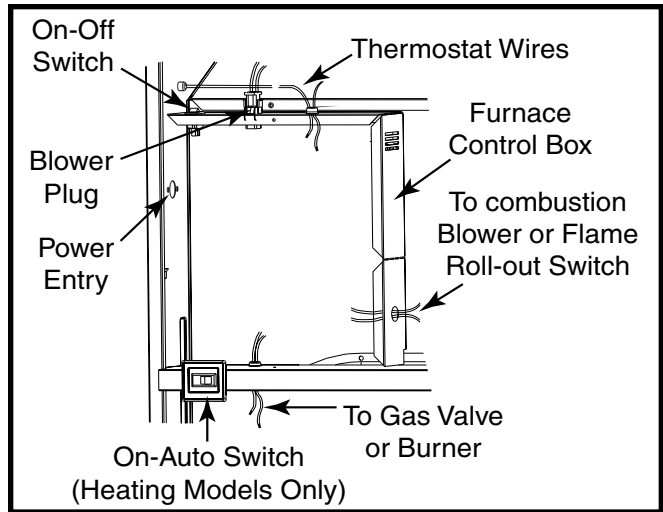

Figure 24. Control Panel (All Models)
2. Route wires (115 VAC) through the strain relief on the left side of the furnace control box. See **Figure 24**.